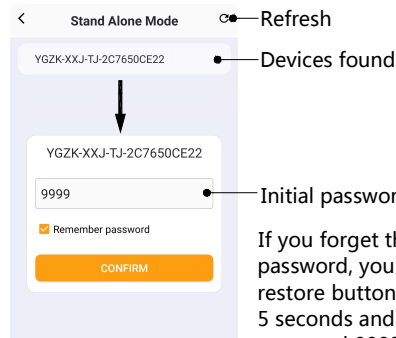

Figure 2
3. Click the search device to pop up the password input dialog box and enter the initial password 9999 (as shown in Figure 2)